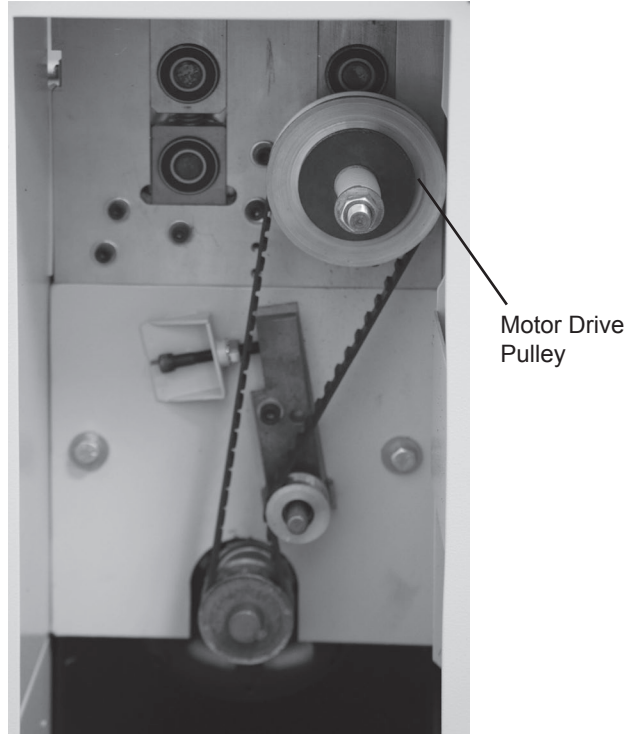

Fig. 29
2. Remove side spacer covers from the operator side of the sealer unit (Fig 29).
3. Loosen set screws on the motor drive pulley and the roller drive pulley (Fig. 29). Slide pulley, with drive belt, off their respective shafts.